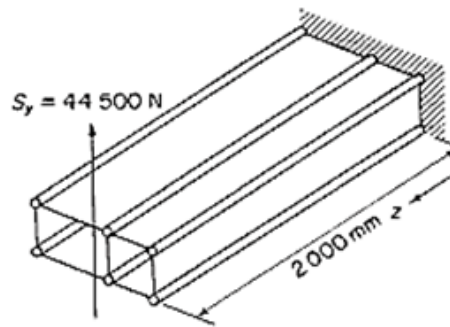

Figure 8
- (b) Calculate the deflection at the free end of the two-cell beam showing Figure 8 allowing for both bending and shear effects. The booms carry all the direct stresses while the skin panels, of constant thickness throughout, are effective only in shear. [7M]